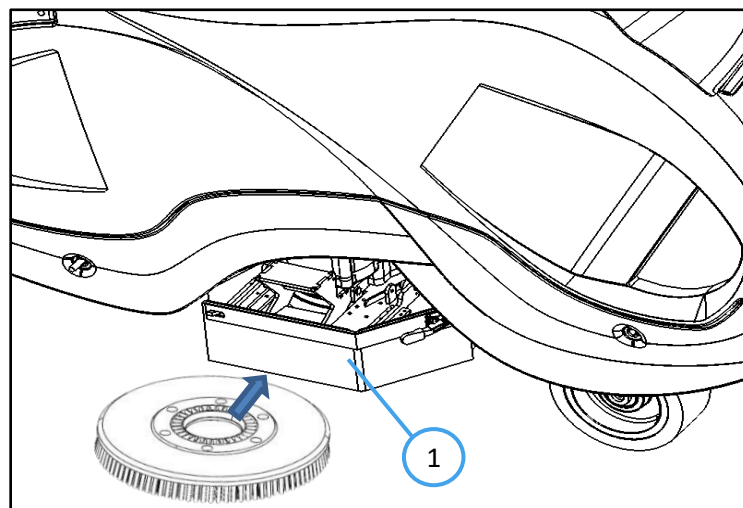

Fig. 2
3. Slide the brush under the robot and align it with the clutch (Fig 2).